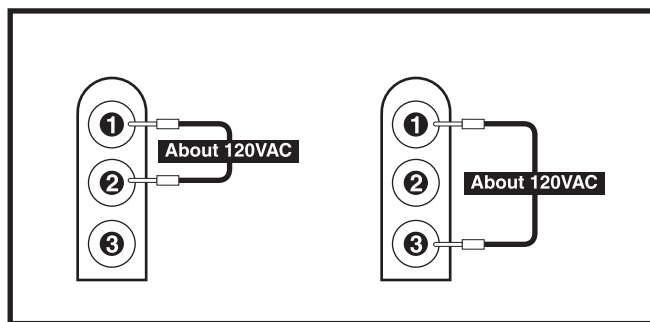

Figure 21. Connector 5a
21. Measure AC voltage across pin 1 and pin 3 on connector 5a and across pin 1 and pin 2 on connector 5a. **See figure 21.**
- If your multimeter indicates about 120VAC in both tests, then replace the battery charger (4) and retest the system.